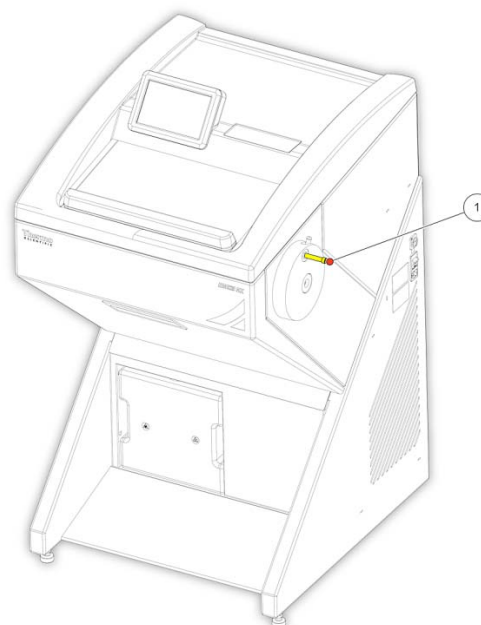

Fig 2b
Instead of the hand wheel handle, a transportation screw (Fig 2b) (item 1) is inserted into the hand wheel. This way the hand wheel is tight and securely connected with the housing of the HM525 NX. It is absolutely necessary to remove this transportation screw before the initial turn-on.
- Loosen the transportation screw (fig. 2b) (item 1) via the Allan key, size 6.